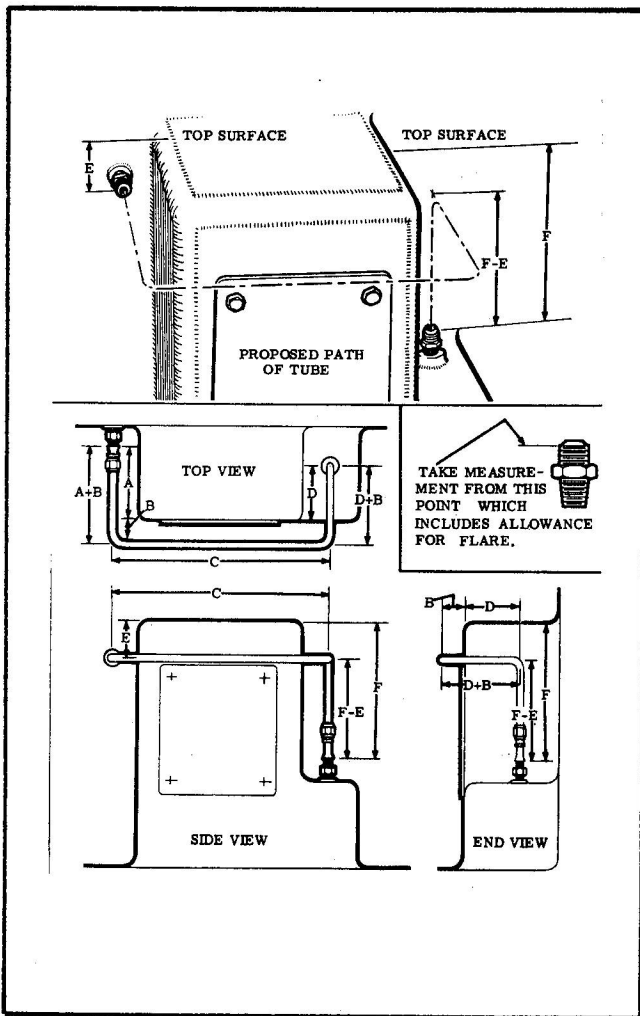

Figure 32 Measurement of Tubing for Layout
- (b) For succeeding bends, from centre line to centre line, see Figure 32.
88 On the Triple-lok type of fitting (Item 33), measure from base of machined flare. On Ferulok type (Item 34) measure to face of equipment, as indicated by dimension A, see Figure 32. Dimension B is clearance between face of equipment and centre line of tube. Then A + B dimension is measurement from end of tube to centre line of first bend. Dimension C is measurement between centre lines of first and second bends. This is obtained by measurement of dummy tubes supported at the points of the proposed layout.